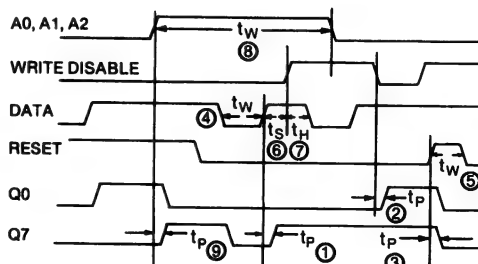

Fig. 2 — Master timing diagram.
| CHARACTERISTIC | SEE FIG 2* | V _{DD} (V) | ALL PACKAGE TYPES TYP. | LIMITS MAX. | UNITS |